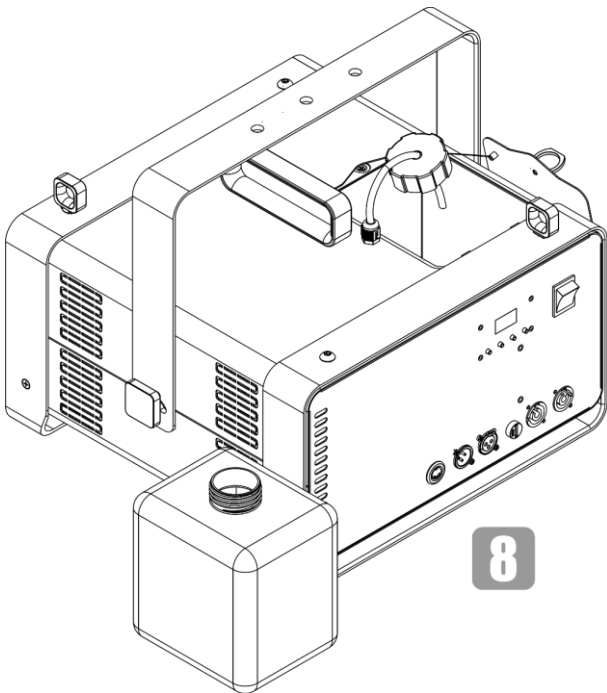

Fig. 27
- 08) Place the fluid tank on a flat surface near the device, as shown in Fig. 27.